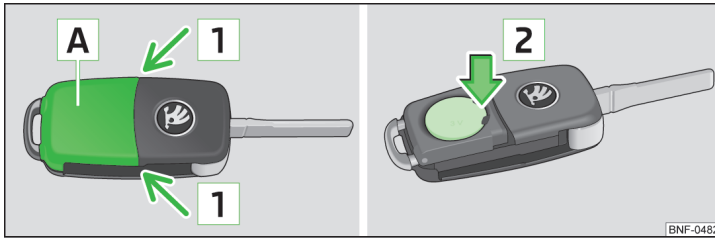

Fig. 119 Remove cover/take out battery
- Press off the battery cover **A** » Fig. 119 with your thumb or using a flat screwdriver in the region of the arrows **1**.